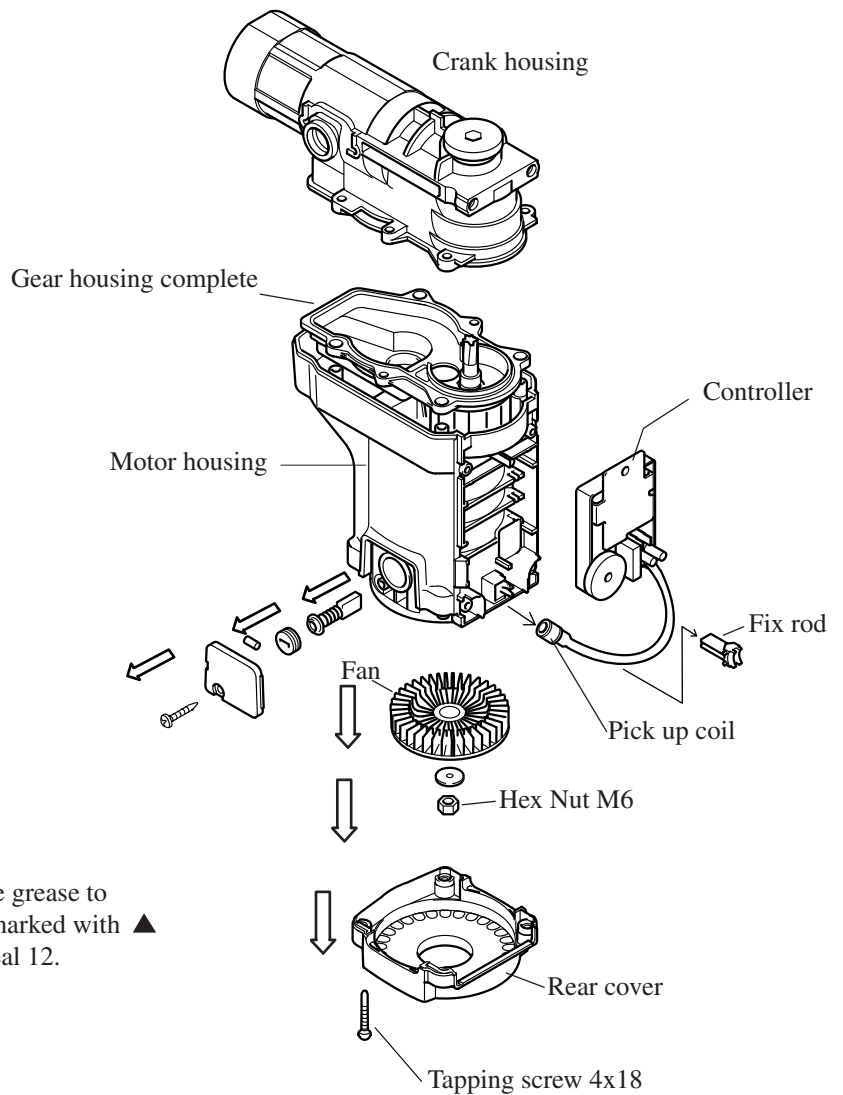

Fig. 8
5. Remove pick up coil after taking off fix rod. (see Fig.8 at the next page)
(see Fig.8)
(see Fig. 8)
9. Remove armature together with gear housing from motor housing by hitting the armature shaft after removing fan. (see Fig.8)